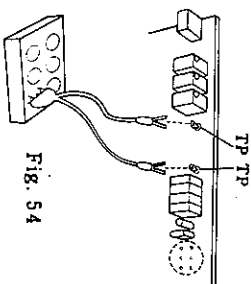

Fig. 54
Set the resistance of (807) variable resistor to 500 or more if it is connected between two TPs (TEST PIN), as shown in Fig. 54. Keep the above limit even if the resistance is varied.
Connect (807) variable resistor between two TPs (TEST PIN) at shown in Fig. 54.